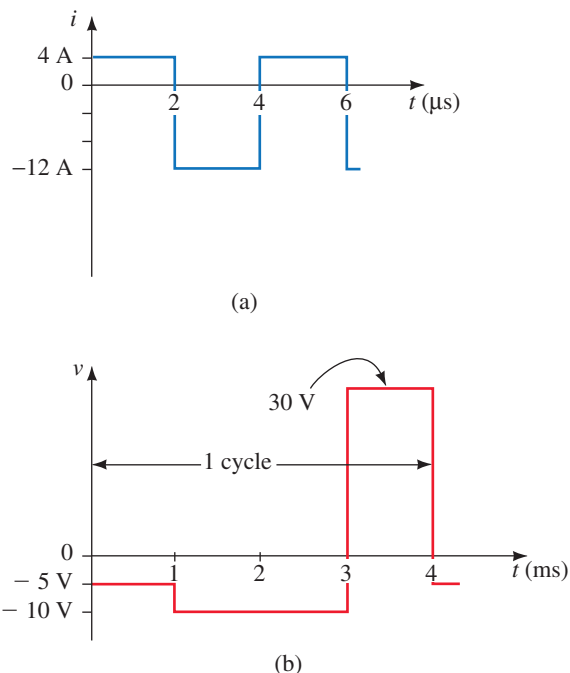

FIGURE 15-92
- Voltage v of Figure 15-92 with $e = 25 \sin \omega t$ V
59. Compute the rms values for the waveforms of Figure 15-92.